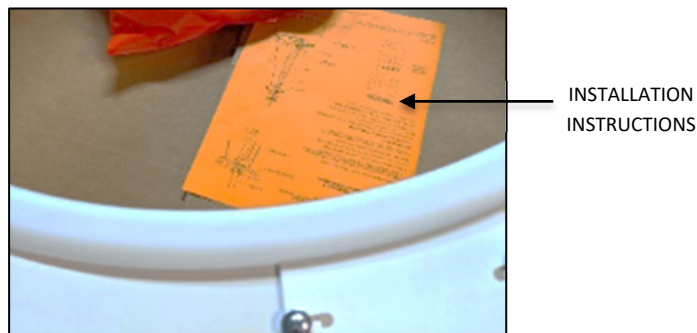

FIG.3 INSTALLATION INSTRUCTION
2. INSTALLATION INSTRUCTIONS (shown in FIG. 3) - Please completely read the install instructions before starting installation.